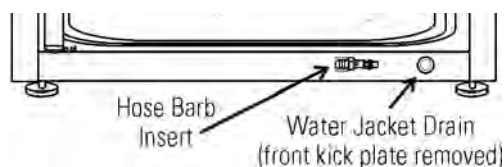

Figure 5-8. Water Jacket Drain and Hose Barb Insert
5. After water jacket has finished draining, remove the hose barb insert and secure on the front of the unit. See Figures 5-8 and 5-9.